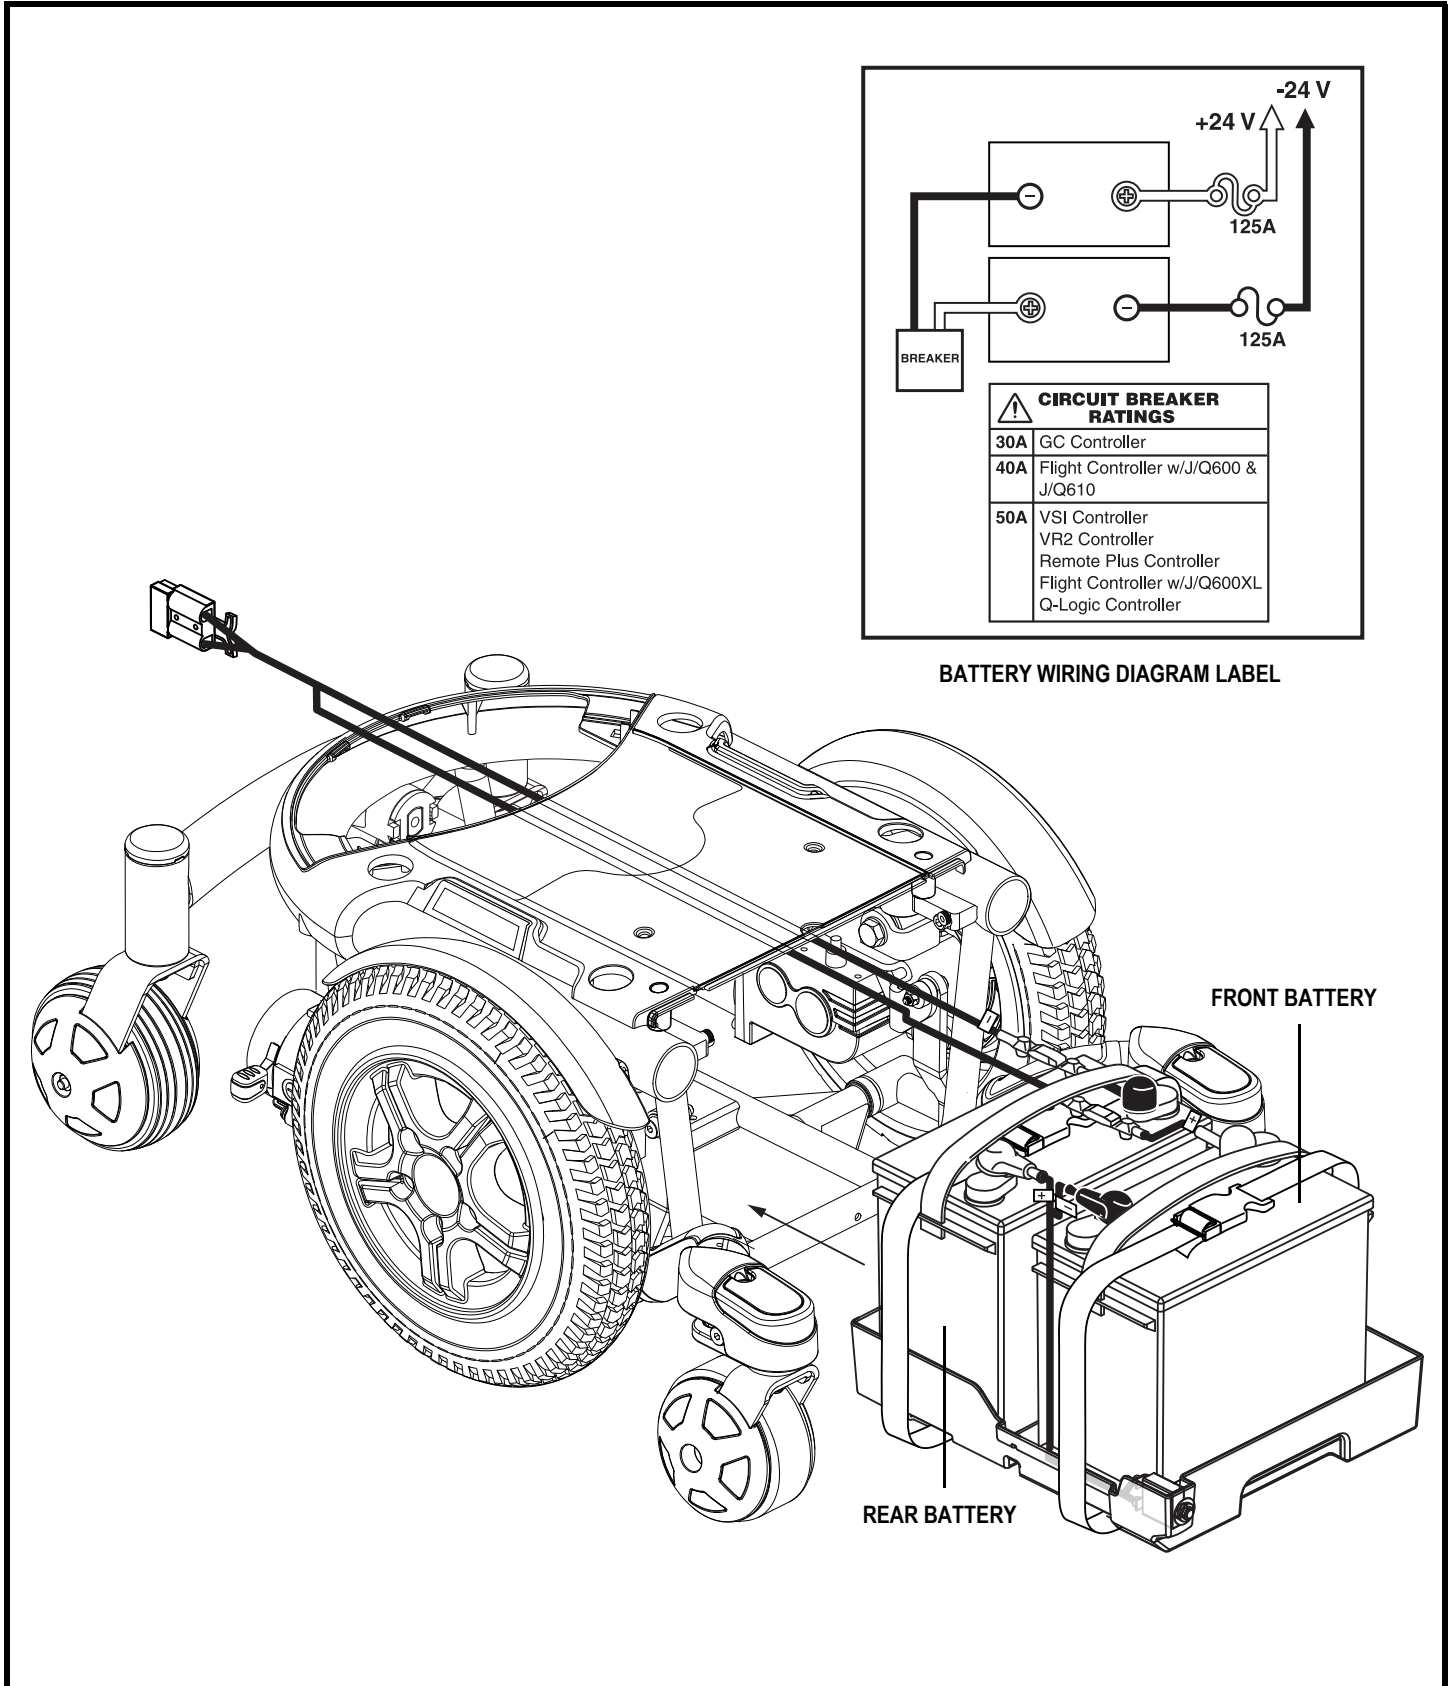

Figure 27. Battery Installation
13. Connect the battery harness to the front battery according to the battery wiring diagram. See figure 27.